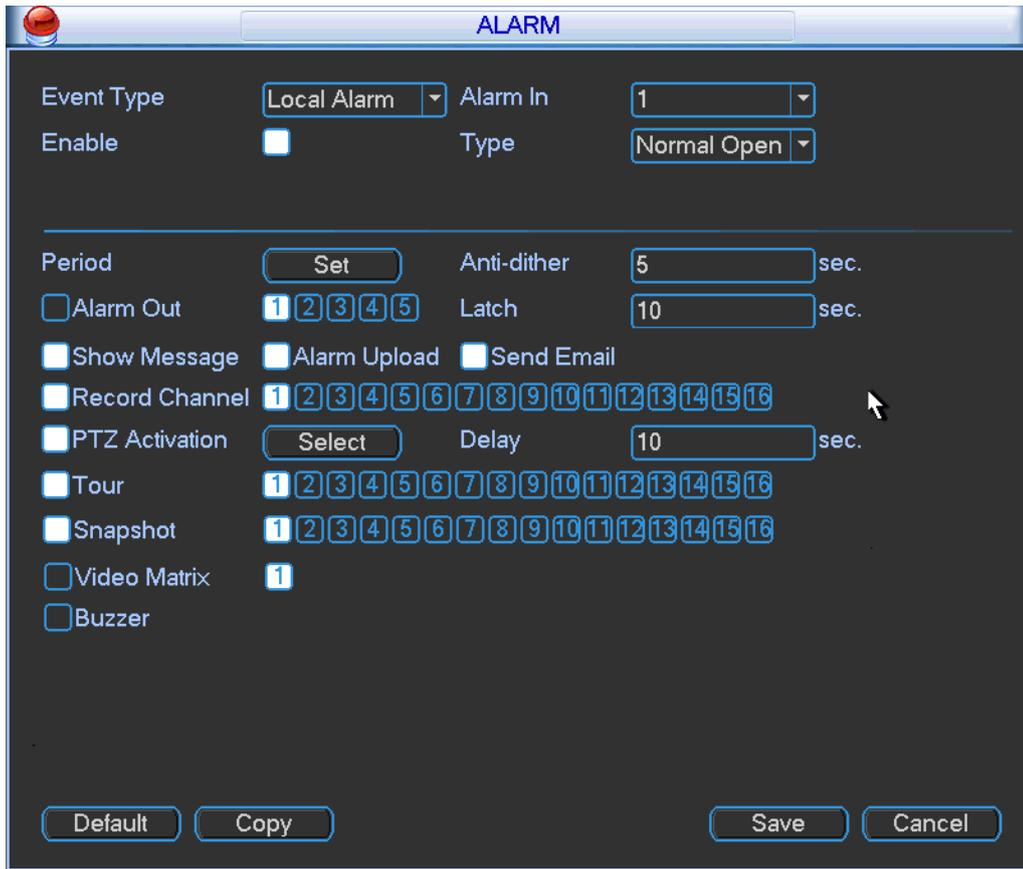
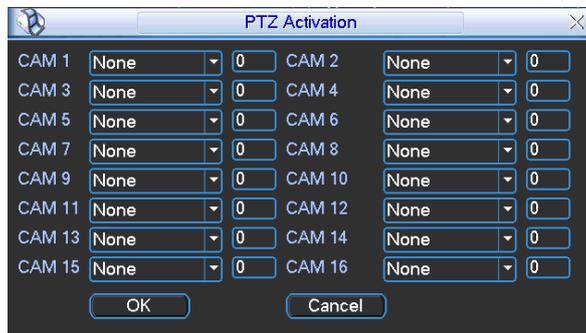

Figure 4-28
Figure 4-29
In the main menu, from Setting to Alarm, you can see alarm setup interface. See Figure 4-28.
Alarm interface is shown as below. See Figure 4-28.
- ✧ In Figure 4-28, click “select” button, you can see an interface is shown as in Figure 4-29. Here you can set the activation operation such as preset tour, pattern and enable.